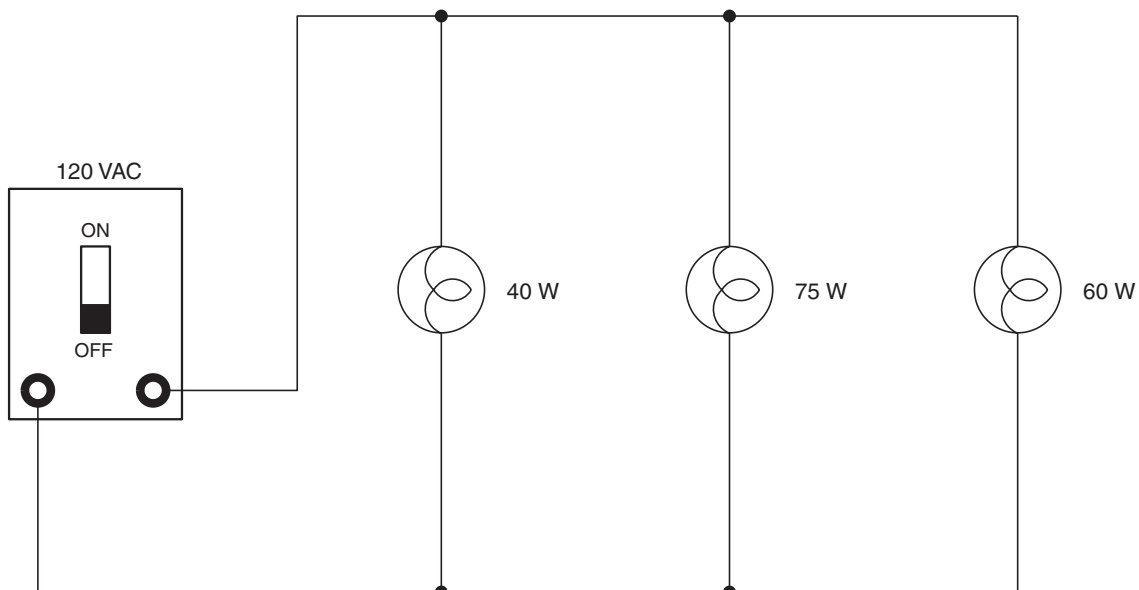

Figure 4-6 Connecting the third parallel circuit.
41. Replace the 100 watt lamp with a 40 watt lamp (Figure 4-6).